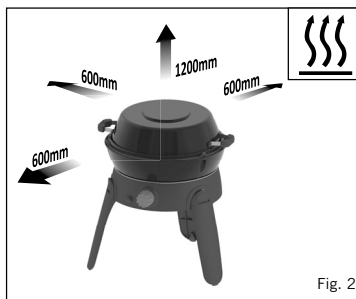

Fig. 2
- This appliance must be kept away from flammable materials during use. Minimum safe distances are: Above the appliance 1.2m. At the rear and sides 600mm. (See Fig. 2)